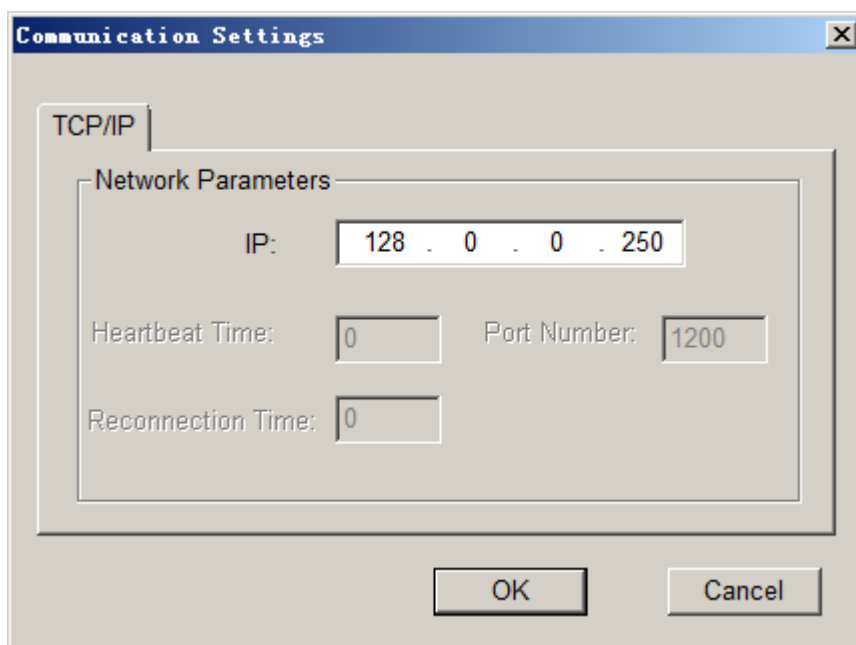

Figure 4-27 Communication Parameters Settings
Step 2. Enter the IP address of the CPU module in the **Communication Settings** window, such as 128.0.0.250, as shown in Figure 4-27.